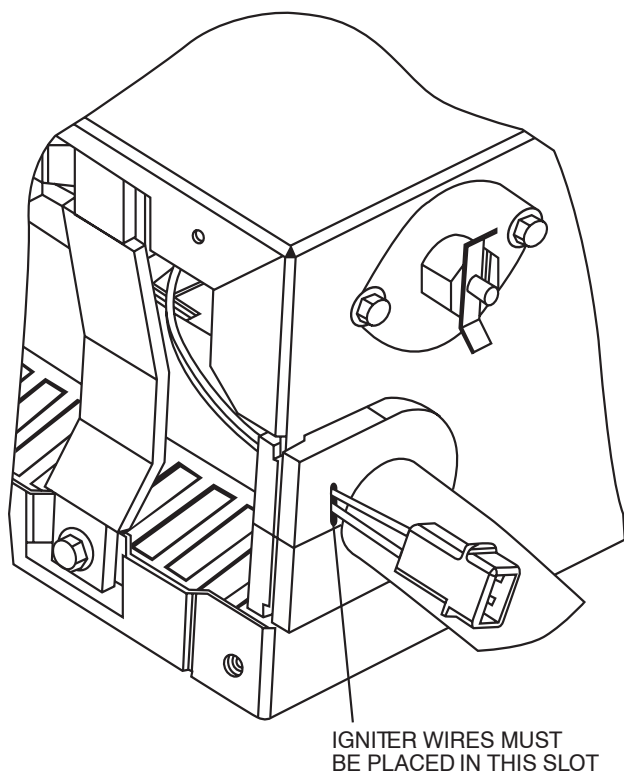

**Fig. 7 - Igniter Wire Placement**
15. Reinsert the igniter wires in the slot in the manifold grommet, dressing the wires to ensure there is no tension on the igniter itself. (See Fig. 7.)